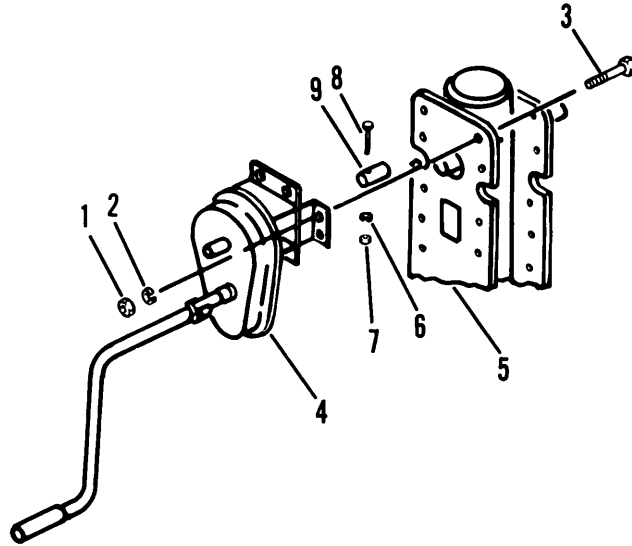

Figure 4-54. Gear Box (111871 only)
- (1) Remove nut (6, fig. 4-54), washer (7) and bolt (8) from coupling (9).
- (2) Remove four nuts (1), washers (2) and bolts (3).
- (3) Remove gear box (4) from landing leg (5).
- (1) Install gear box (4, fig. 4-54) on landing leg (5).
- (2) Install four bolts (3), washers (2) and nuts (1).
- (3) Install bolt (8), washer (7) and nut (6) on coupling (9).